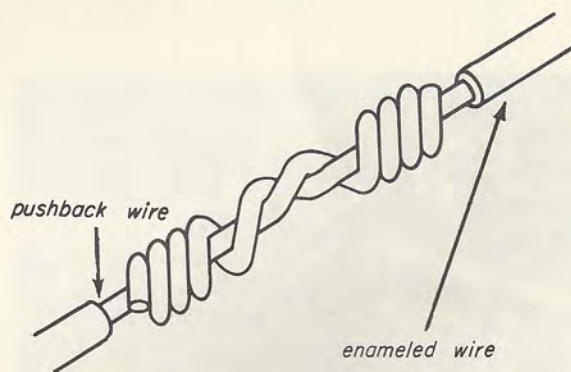

Fig. 1-9
Step 5. With the tinned pushback wire and the wire you just tinned, form the splice shown in Fig. 1-9.